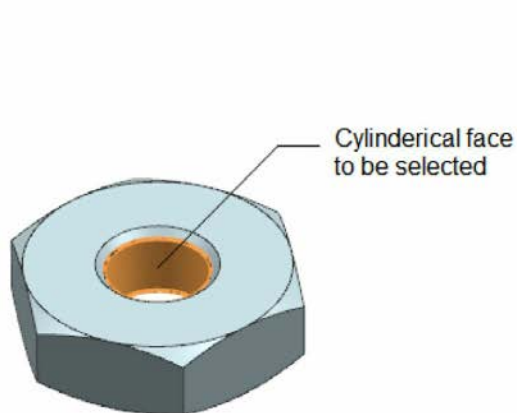
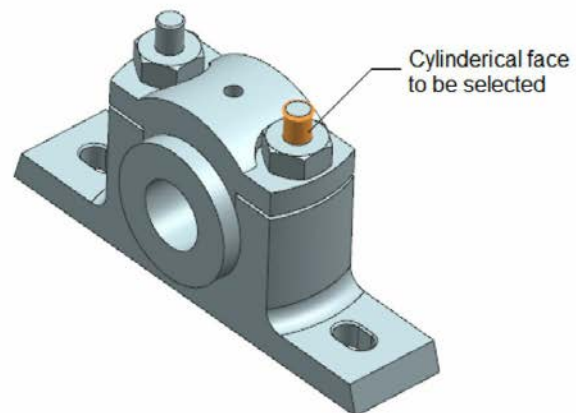

Figure 8-105 Cylindrical face to be selected from the Lock Nut
Figure 8-106 Cylindrical face to be selected from the Bolt
7. Select the cylindrical face of the Lock Nut, as shown in Figure 8-105. Next, select the cylindrical face of the Bolt, as shown in Figure 8-106.